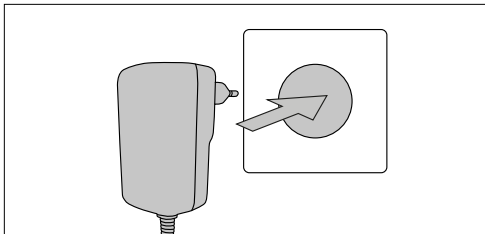

Fig. 8: Connecting the power supply to outlet
Insert the plug ② into the outlet (Fig. 8). Additional outlet adapters are supplied to support regional requirements.